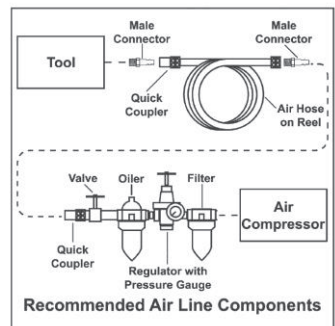

Fig. 1
- A filter-regulator-lubricator should be kept as close to the tool as possible (Fig. 1).